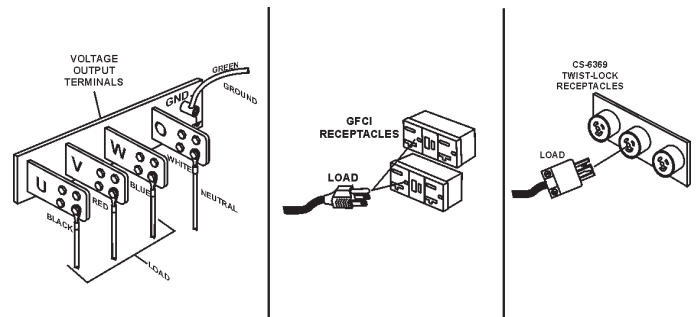

Figure 43. Load Connections
2. Connect the load to the **UVWO** terminals or **auxiliary receptacles** as shown in Figure 43. These load connection points can be found on the output terminal panel. To gain access to the UVWO terminals or other power receptacles, unlock the access cover and lift the door.